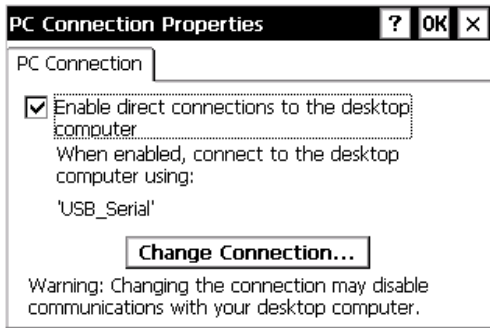

Figure 4-1. PC Connection Properties Dialog Box
1. On the SHC2500, tap **Start ▶ Settings ▶ Control Panel** (Figure 4-1). From the control panel selections, double-click on the *PC Connections* icon. The *PC Connection Properties* dialog box displays.